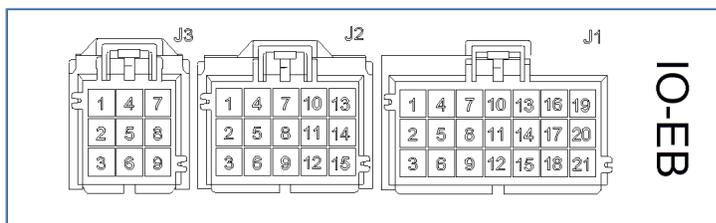

FIGURE 4
3. Inside the evaporator compartment: extract circuit A54J1.4 from module EA54, connector J1 pin 4 cavity (Figure 4 & Figure 5). Discard that section of the circuit.